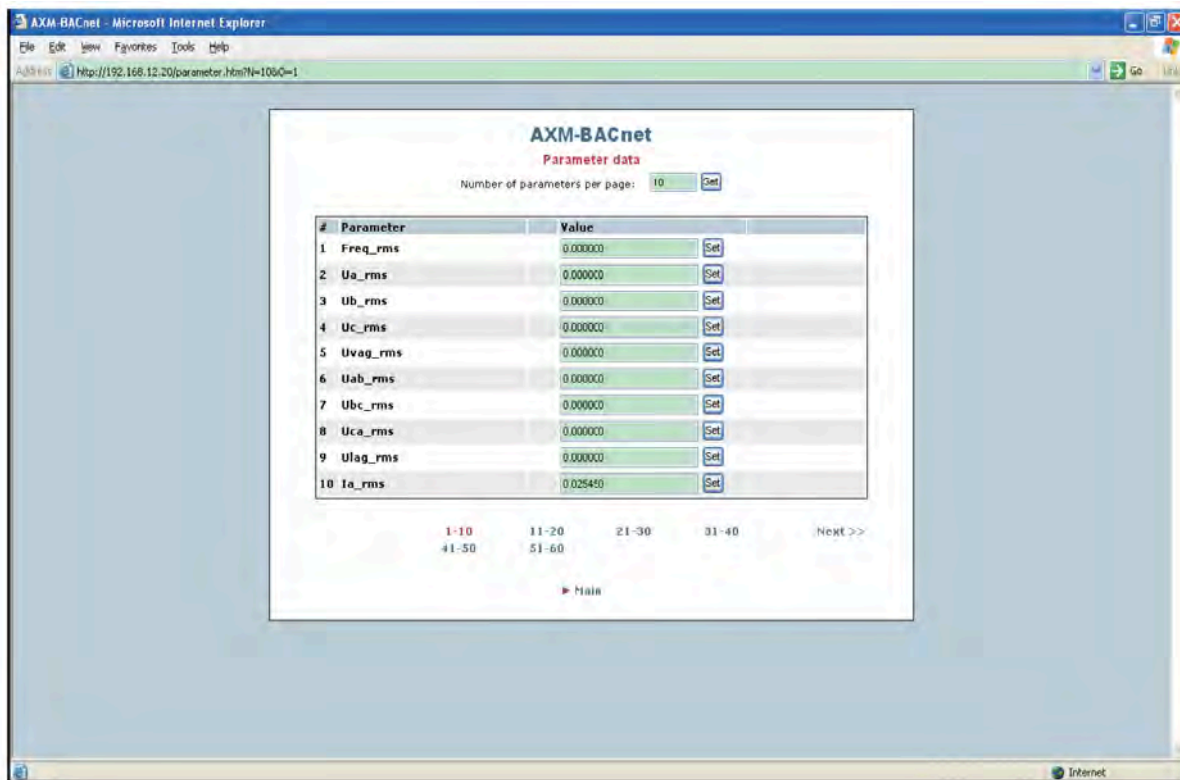

Fig 5-91
e). Set MAX INFO FRAM in the third setting page, such as 1. The BACnet MS/ TP MAX INFO FRAM default value is 1, and the user defined range of MAX INFO FRAM is 1~255. Users may set the parameters pointed out in Fig 5-91. After setting the BACnet MS/TP MAX INFO FRAM, press the "V/A" key to accept. Press the "P" key to go to the fourth setting page for the module reset.